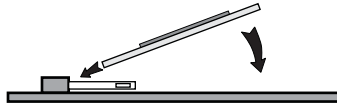

Figure 3 MediaCache Memory Module
6. Gently slide the new MediaCache Memory Module down at an angle into the Memory Socket you just removed the memory module from (**Figure 3**).